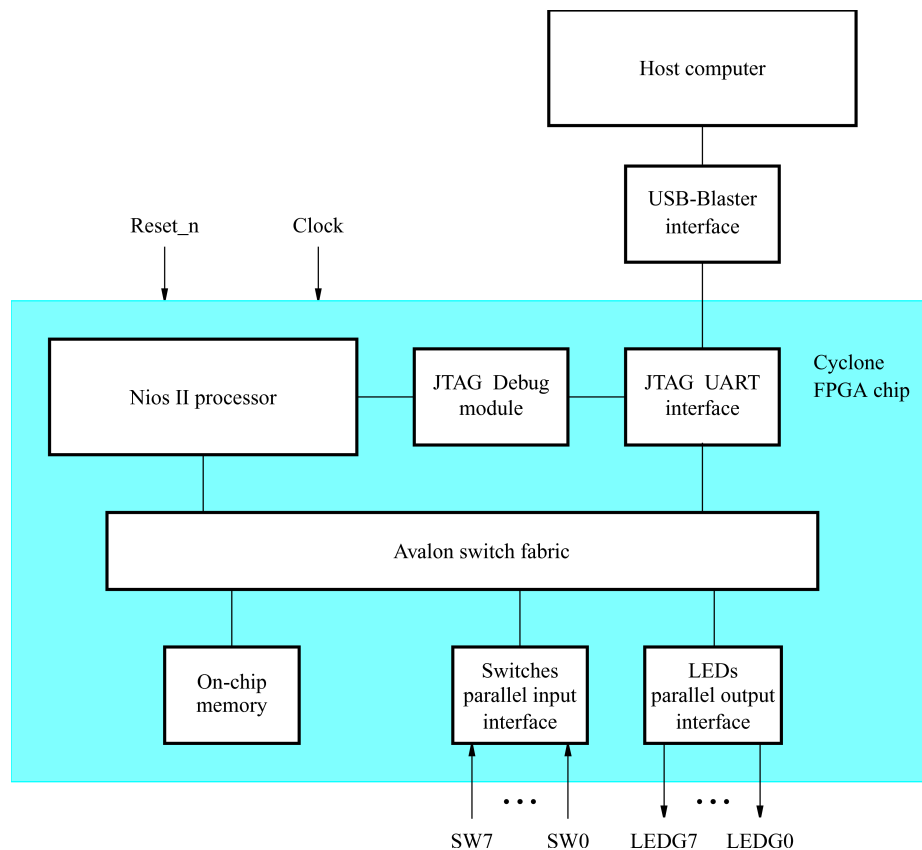
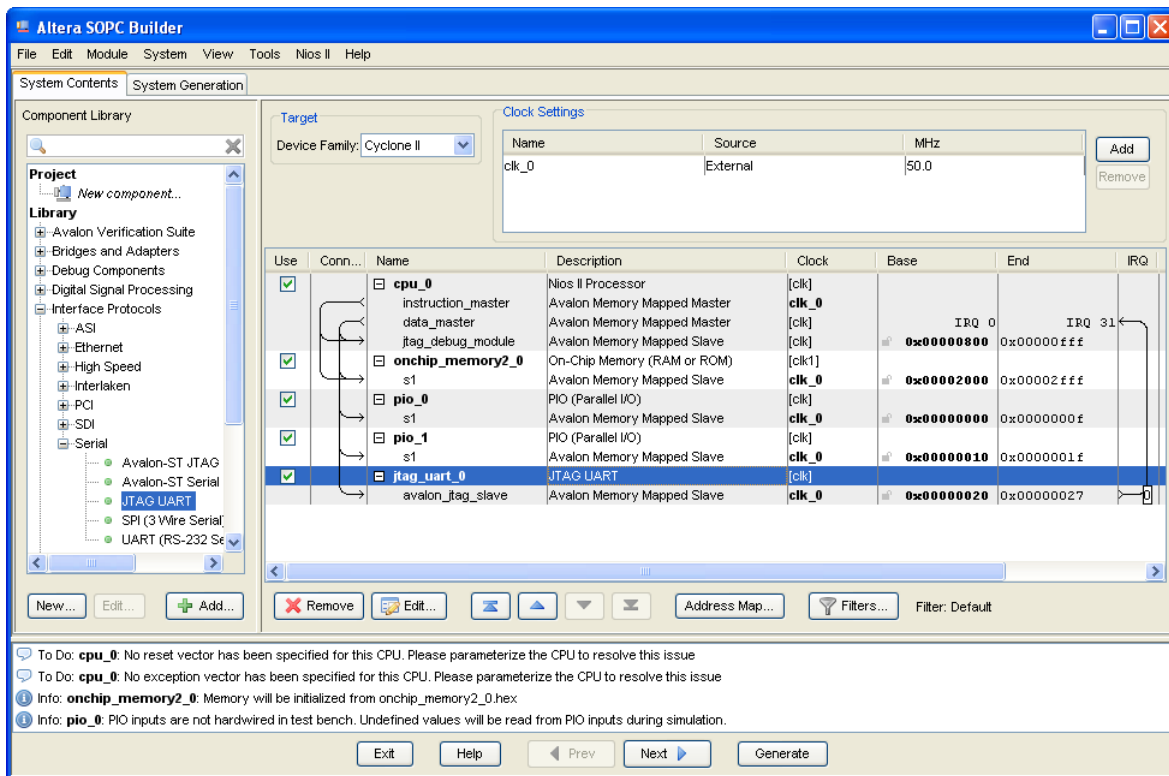

Figure 2. A simple example of a Nios II system.
Figure 13. The complete system on a DE-series board.
Our example system is given in Figure 2. The system realizes a trivial task. Eight toggle switches on the DE-series board, *SW7 – 0*, are used to turn on or off the eight green LEDs, *LEDG7 – 0*. The switches are connected to the Nios II system by means of a parallel I/O interface configured to act as an input port. The LEDs are driven by the signals from another parallel I/O interface configured to act as an output port. To achieve the desired operation, the eight-bit pattern corresponding to the state of the switches has to be sent to the output port to activate the LEDs. This will be done by having the Nios II processor execute a program stored in the on-chip memory. Continuous operation is required, such that as the switches are toggled the lights change accordingly. Note that on a DE0-Nano board, there are only four dip switches. Therefore, if you have this board, use the four dip switches, *SW3 – 0*, and four LEDs, *LED3 – 0*.
We will use the SOPC Builder to design the hardware depicted in Figure 2. Next, we will assign the Cyclone-series pins to realize the connections between the parallel interfaces and the switches and LEDs which act as I/O devices. Then, we will configure the FPGA to implement the designed system. Finally, we will use the software tool called the *Altera Monitor Program* to assemble, download and execute a Nios II program that performs the desired task.
The SOPC Builder is a tool used in conjunction with the Quartus II CAD software. It allows the user to easily create a system based on the Nios II processor, by simply selecting the desired functional units and specifying their parameters. To implement the system in Figure 2, we have to instantiate the following functional units:
10. The complete system is depicted in Figure 13. Note that the SOPC Builder automatically chooses names for the various components. The names are not necessarily descriptive enough to be easily associated with the target design, but they can be changed. In Figure 2, we use the names Switches and LEDs for the parallel input and output interfaces, respectively. These names can be used in the implemented system. Right-click on the `pio_0` name and then select **Rename**. Change the name to Switches. Similarly, change `pio_1` to LEDs.